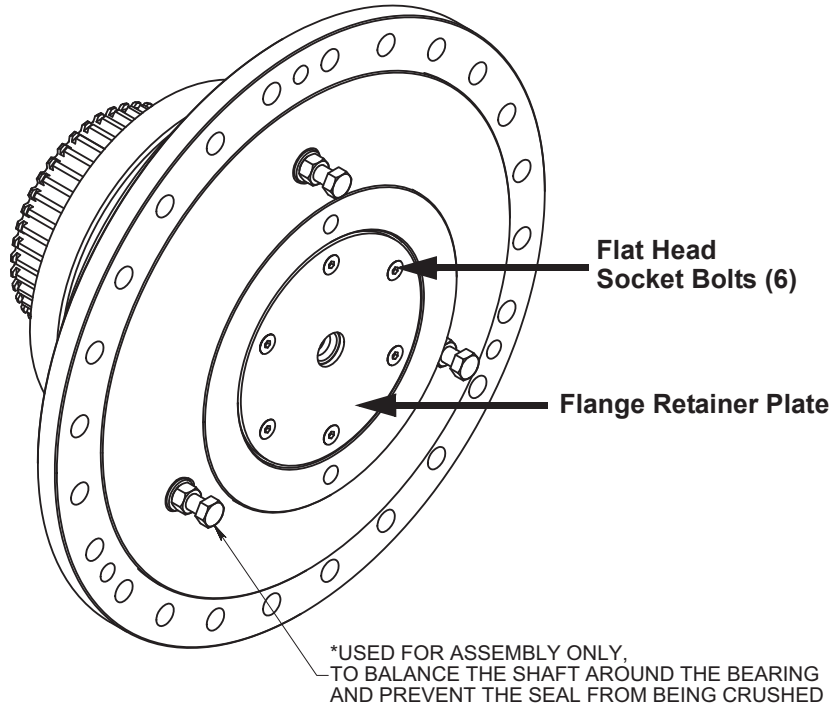

Figure 2: Existing ODS Flange Retainer Fasteners
7. Remove retaining bolts (8) securing the pedestal assembly to the skid and remove the pedestal unit.
8. Remove remaining bolts (24) on the drillers side of the drum and remove the drum unit assembly.
9. On the ODS planetary assembly, remove the flat head socket head bolts (6) and flange retainer plate (See Figure 2 on page 5).